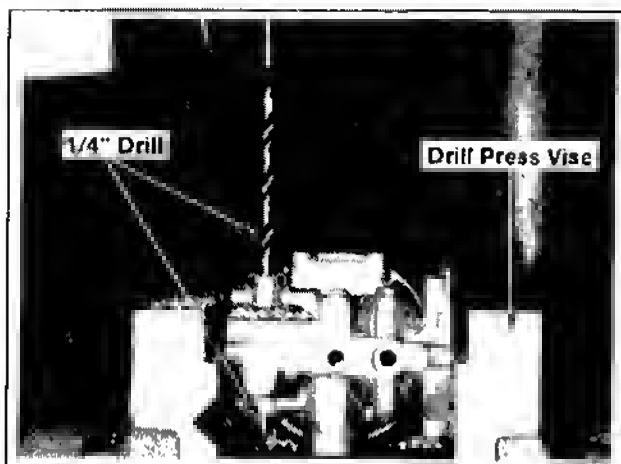

Figure 6A-9. Aligning/Drilling Carburetor Body.
2. Install a 1/4" dia. drill in drill press chuck. Lower drill (not rotating) through both choke shaft bores; then tighten vise. This ensures the carburetor body and drill are perpendicular and in correct alignment. Refer to Figure 6A-9.